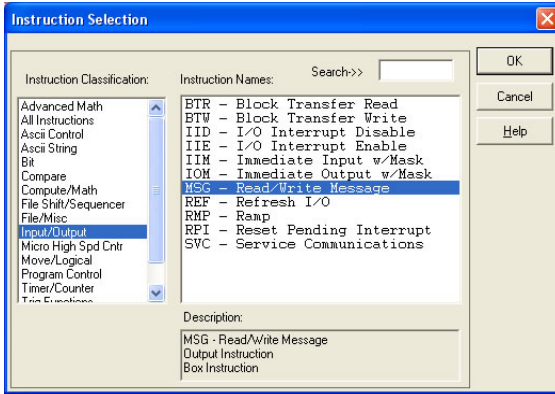

Figure 110: MSG Instruction Selection
- d) Select the "MSG" instruction from the "Input/Output" classification, then click OK. Refer to Figure 110.